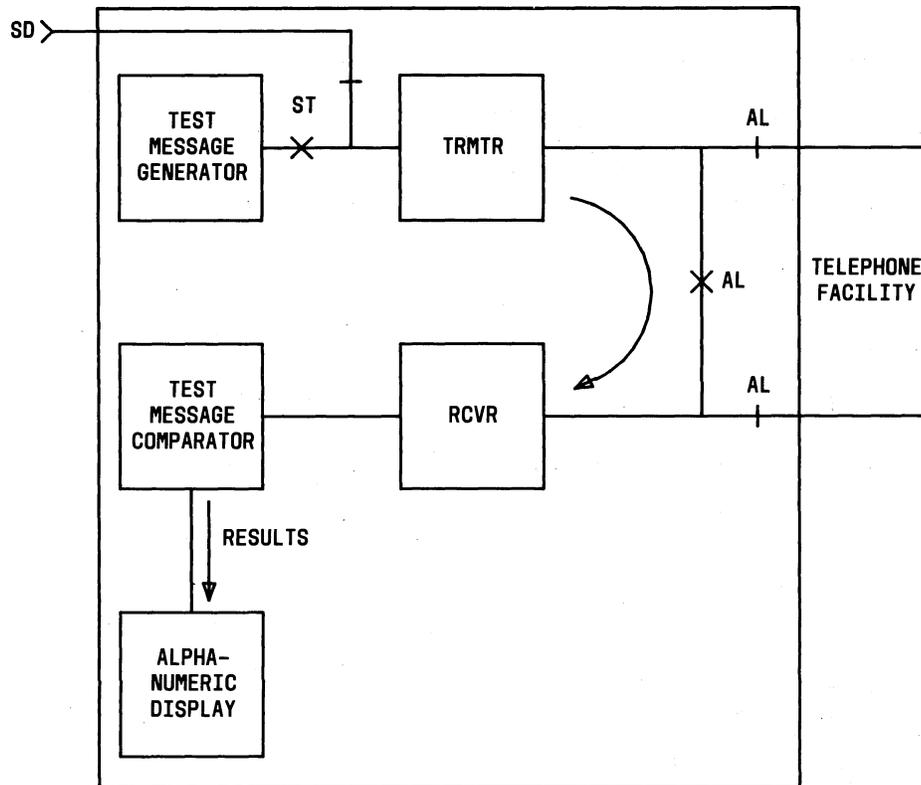

Fig. 19—Modem Test or Continuous Modem Test
**3.61** Modem test (Fig. 19) involves start-up and transmission of a message 100 times. The data set is internally disconnected from the telephone facility interface and the transmitter output is connected to the receiver input through an attenuator (analog loopback). If one error is detected in the 100 transmissions the alphanumeric display will indicate FAIL alternating with "MT--" (for a control data set) or "MTxx" (for a tributary data set) where "xx" is the network address of the data set. If no errors are detected PASS will be indicated alternating with the test abbreviation (MT) and data set identification.
**3.80** This test (Fig. 19) checks an individual control or tributary data set transmitter and receiver. When the test is initiated the data set-generated test message is looped back from the transmitter output to the receiver input through an internal attenuator. The received data is then checked against the original message. Upon completion of the test the alphanumeric display will display PASS or FAIL alternating with C-MT. As soon as one passed test is completed another begins. If the test fails it is not rerun and FAIL is displayed.